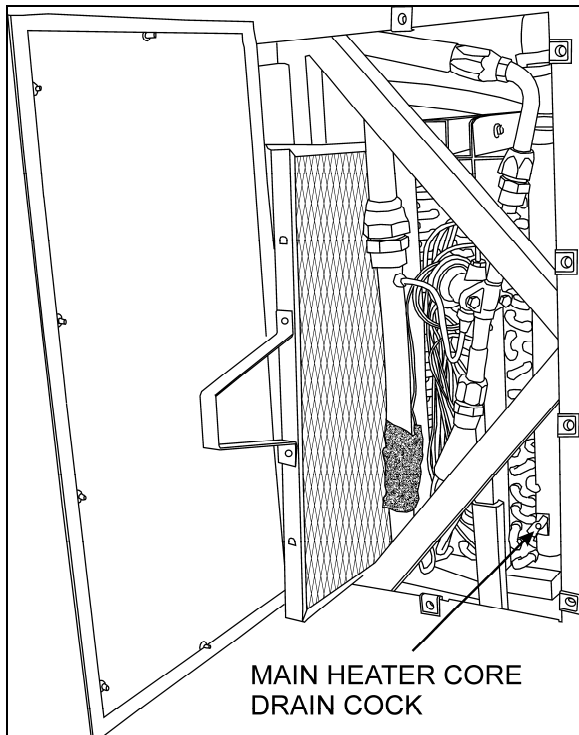

FIGURE 45: EVAPORATOR COMPARTMENT 22327
4. Open drain cock in bottom of heater core, you can unfasten a hose connection on top of heater core (Fig.45) in order to allow air to enter while draining.